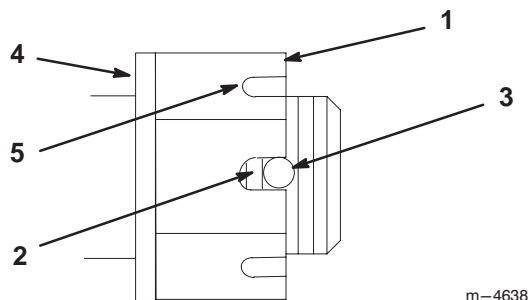

Figure 39
3. Torque slotted nut to 125 ft-lbs (169.5 N•m) (Fig. 39).
4. Check the distance from bottom of slot in nut to inside edge of hole. Two threads or less should be showing (Fig. 39).
5. If more than two threads are showing remove nut and install washer between hub and nut (Fig. 39).
6. Torque the slotted nut to 125 ft-lbs (169.5 N•m) (Fig. 39).
7. Tighten nut until the next set of slots line up with the hole in the shaft (Fig. 39).